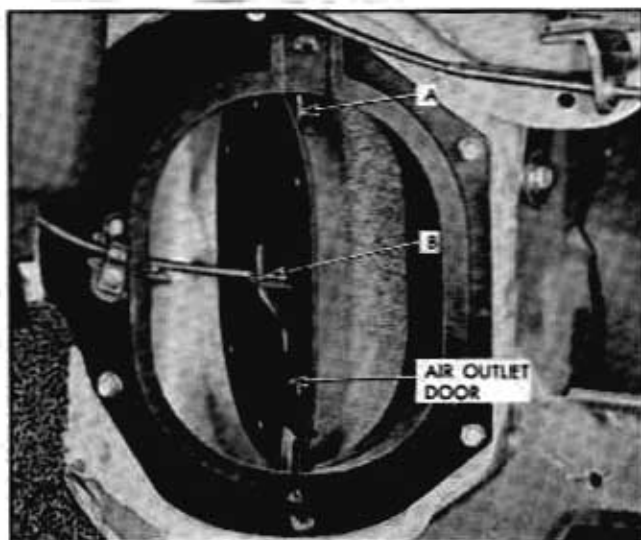

Fig. 1-14 Air Outlet Door
2. Remove screws securing outlet to shroud panel, disengage cable from pin, on door, and remove outlet (Fig. 1-14).
2. Remove end control cable from pin at "B" (Fig. 1-14).